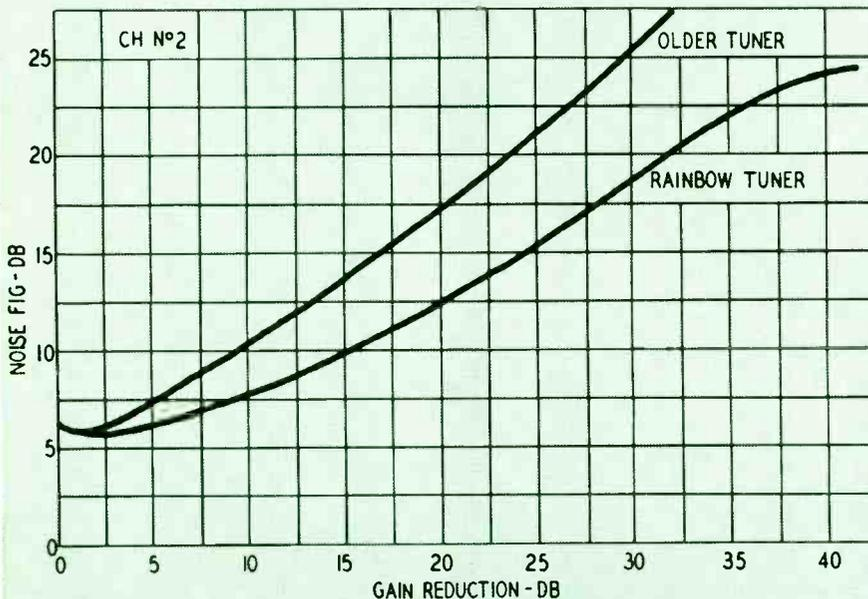

Fig. 4—Graph of noise figure vs. gain reduction in Standard Coil tuners.
a.g.c. action it has been apparent in cases where the r.f. signal input level was 500 to 1,000 microvolts, for example, that the noise figure of the tuner has increased too rapidly as more a.g.c. is applied—that is, under typical conditions where signal levels are fluctuating and stronger signals result in the appearance of more noise while increased a.g.c. voltage is applied. The Rainbow circuit, by applying a.g.c. not only to the first cascode triode but also indirectly to the second cascode stage and the mixer, limits the noise level so that the noise figure does not rise nearly as rapidly with gain reduction as in previous tuners. (See Figs. 4 and 5.)